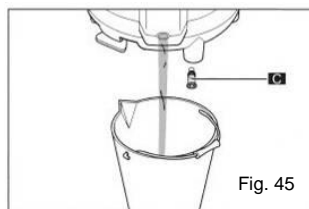

Fig. 45
- Hold the auxiliary vessel (B) of volume higher than 3 litres under the drain screw (C) of the water tank.
- Unscrew the drain screw (C) of the water tank with use of coin or Allen wrench.
- Remove the drain screw (C) and wait until all water is drained from the tank. (fig. 45)